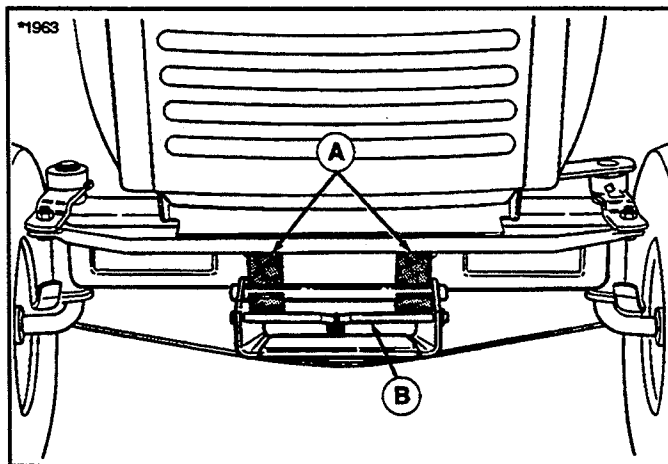

Figure 7. Mower Hitch
3. See figure 7. Turn wheels straight. Pull back on the spring-loaded lever (B) while lifting up on the mower hitch. Install mower hitch onto tractor hitch brackets (A). When properly installed, the spring-loaded lever should seat fully underneath the brackets.
6. Turn wheels straight ahead. Pull back on spring-loaded lever (figure 7) and lift mower hitch off of the tractor brackets.